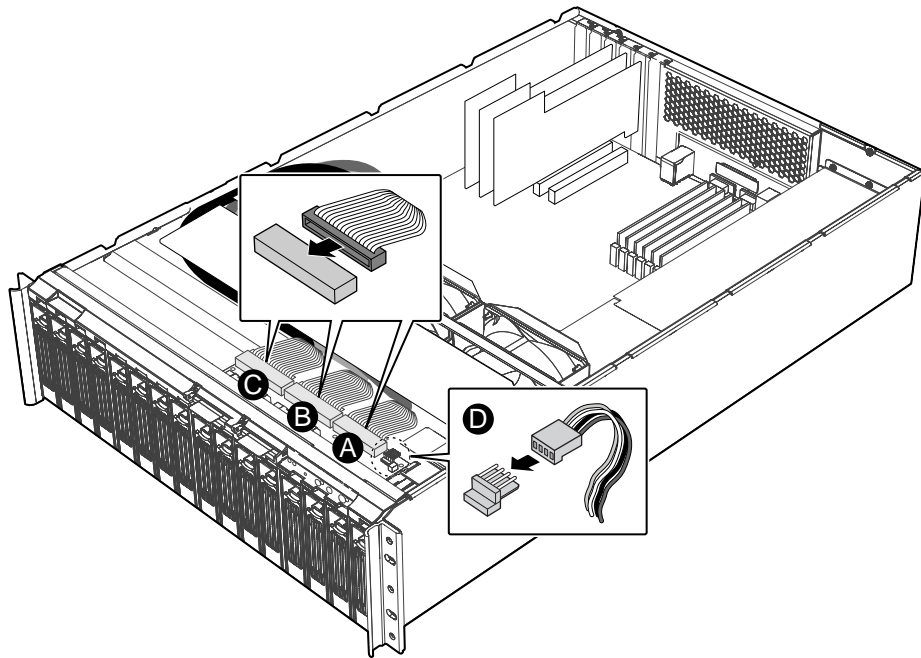

Figure 20. Re-seating Front Panel Board Cables
- A. Re-seat the Front Panel Cable labeled J1 into its connector receptacle on the front panel board. See Figure 20.
- B. Re-seat the Secondary IDE Cable labeled J3 into its connector receptacle on the front panel board. See Figure 20.
- C. Re-seat the Primary IDE Cable labeled J5 into its connector receptacle on the front panel board. See Figure 20.
See Figure 20.